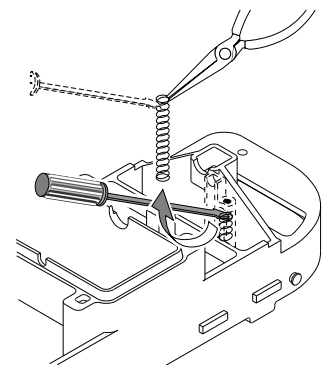

Figure 16
7. With a small screwdriver (such as a jeweler's screwdriver), a pencil, or a pen point, depress and remove the coil spring from the movable brush mounting post (Figure 16). Replace the brush and the spring if necessary.